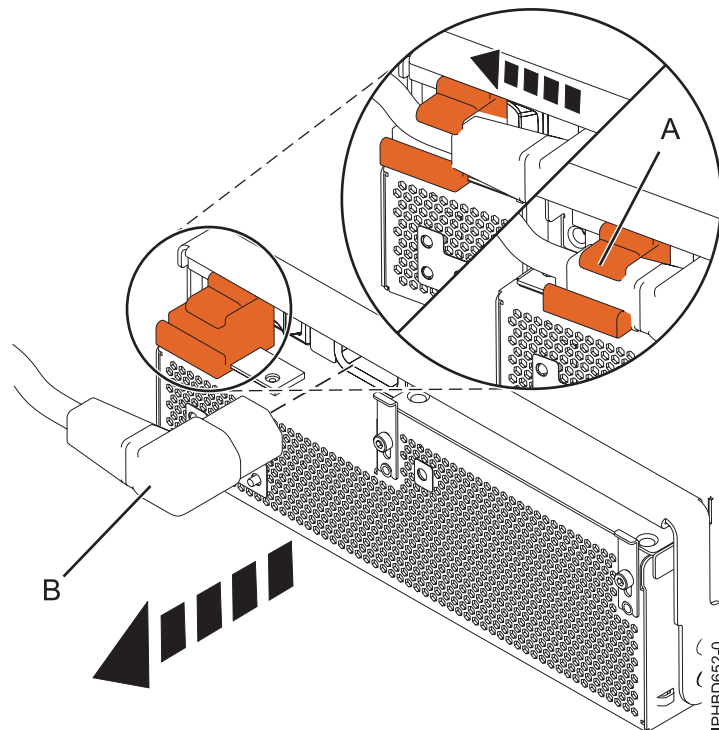

Figure 11. Disconnecting the power cable from the front of an expansion unit
5. For the power supply that you want to remove, slide the cable retention bracket to the open position (A), and then disconnect the power cable (B) as shown in Figure 11. By moving the bracket to the open position, you turn the power supply off.